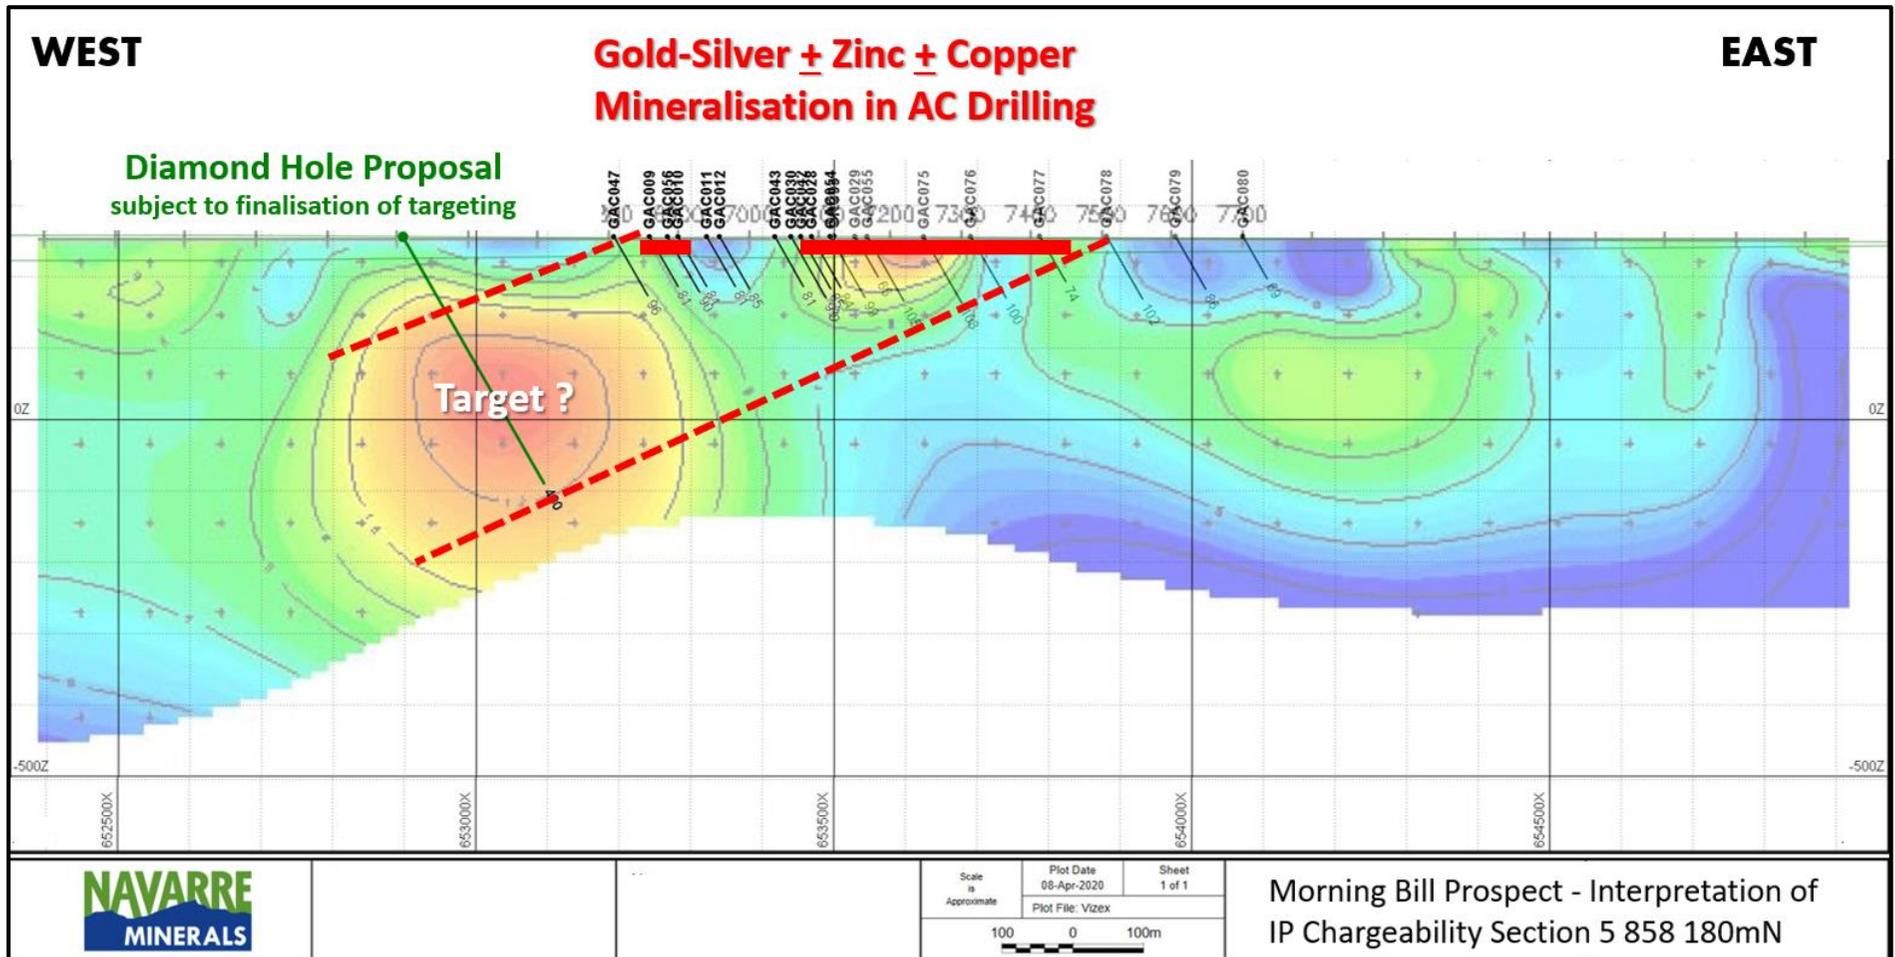

Figure 5: Expanded Cross-section 5 858 180N interpretation showing mineralised zones relative to deeper IP chargeability target.
The broad silver and gold zone intersected in drilling is coincident with a magnetic low zone, interpreted to represent demagnetising of the volcanic (andesite) host rock as a result of the pervasive silica-sericite alteration. This observation highlights other larger magnetic lows within the project area that remain untested (T1 – T7 in Figure 3). The silver-gold zone also coincides with a deeper (200 – 300m) Induced Polarisation (IP) chargeability anomaly which currently remains untested by drilling (see Figure 5).
The orientation of the mineralisation and the controlling structures at the Morning Bill prospect are poorly understood at this stage of early exploration and will require diamond drilling to understand the geometry of the mineralised system. The Company interprets the mineralised broad alteration zones to represent potential epithermal-style mineralisation situated above a deeper porphyry target, as indicated in the IP geophysics (Figure 5).